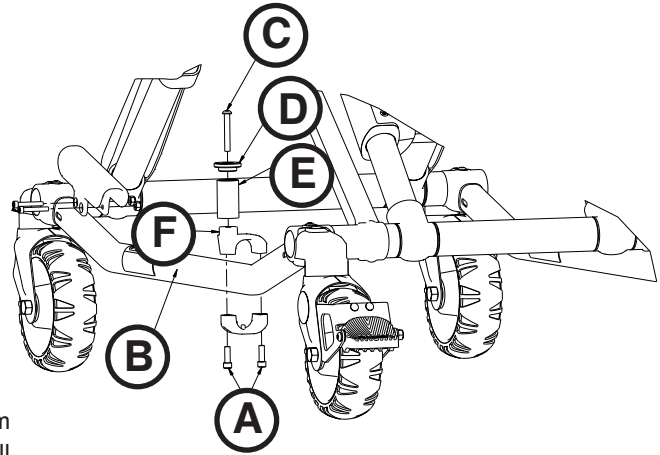

Figure 65
3. Using a T30 Torx driver, remove the two socket head cap screws (A) that secure the current cot retaining post to the base tube (B) (Figure 65). Discard the screws and cot retaining post.
4. Insert the button head cap screw (C) through the retaining post cap (D) and post tube (E), and then into the top pin bracket (F) (Figure 65).
5. Using a 5/32" hex wrench, tighten the button head cap screw (C) completely to secure the retaining post cap (D) and post tube (E) to the top pin bracket (F) (Figure 65). Using a torque wrench, torque the screw to 100-140 in-lb.